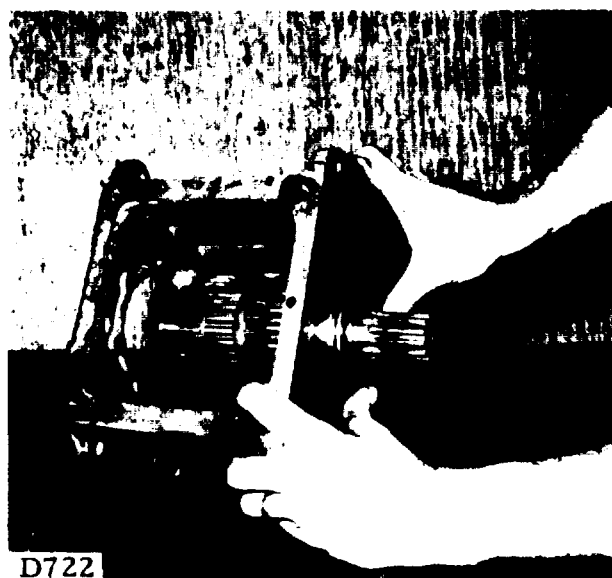

FIGURE 7-69.
- h. Pull the sliding gear off the output shaft (see figure 7-69).
h. Lift the output shaft by both ends. Align the bearing with its bore. Start the bearing into its bore (see figure 7-69). Push the bearing into the bore until the snap ring contacts the case.